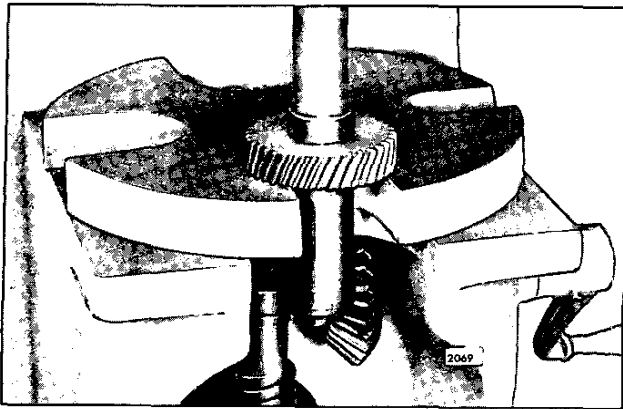

Fig. 3 - Pressing Blower Drive Gear From Shaft
3. Support the blower drive gear in an arbor press (Fig. 3).